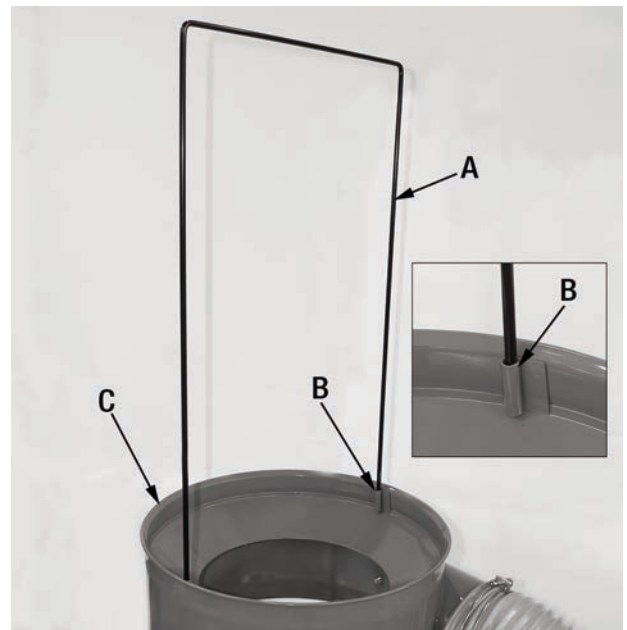
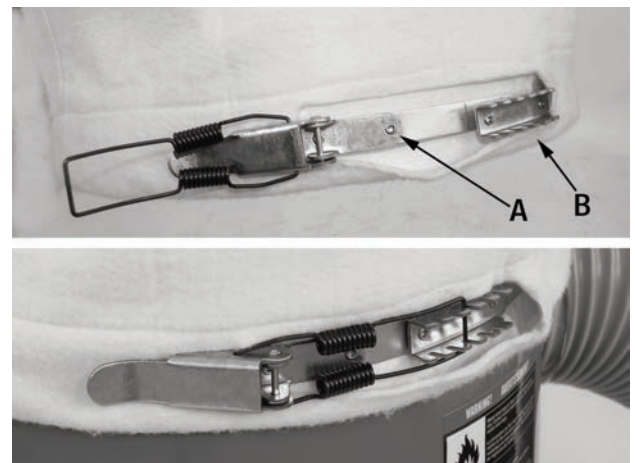

FIGURE 10
FIGURE 11
8. Install bag hanger (A) Fig.10 into the mounting holes (B) in the filtration housing (C).
9. Insert and slide retainer strap (A) Fig.11 through the opening in the top dust bag (B) until it comes out the other end. Position the top dust bag over the bag hanger (A) Fig.10 and secure the dust bag to the upper lip of the filtration housing as shown in Fig.11.